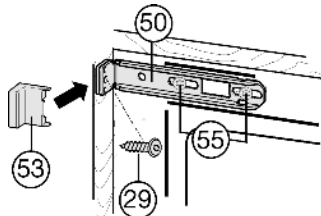

Fig. 18
- ▶ Loosen the screws *Fig. 18 (55)* a little.
- ▶ Tightly screw the top mounting bracket *Fig. 18 (50)* to the unit wall using Spax screw *Fig. 18 (29)* $\varnothing 4 \times 19$.
- ▶ Break off the projecting end of the cover *Fig. 18 (53)*.
- ▶ Tighten the screws *Fig. 18 (55)*.
- ▶ Put on the cover *Fig. 18 (53)*.